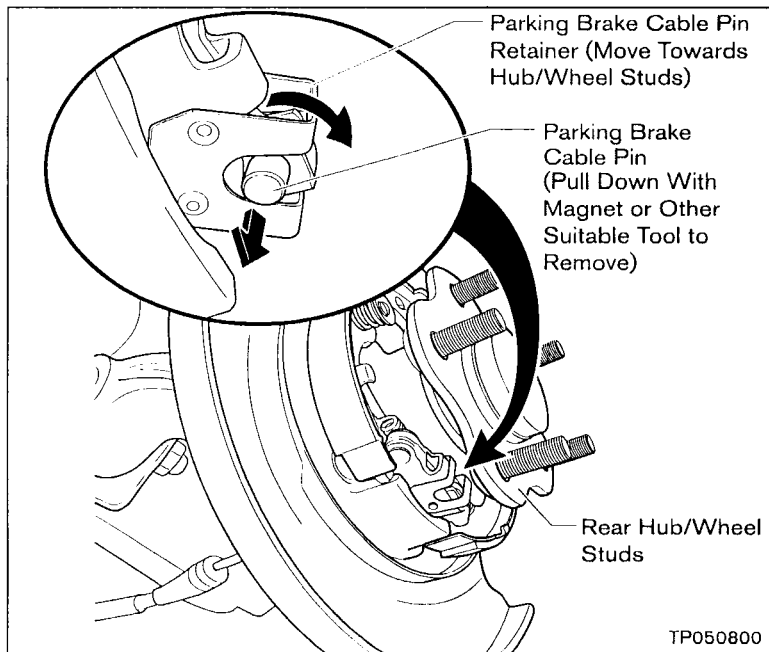

Figure A11
- a. Pull the parking brake cable pin retainer OUT towards the hub/wheel studs (see Figure A11).
- b. Then, use a magnet or other suitable tool to remove the pin from the bottom side of the parking brake cable end (see Figure A11). Be careful not to drop/lose the pin.